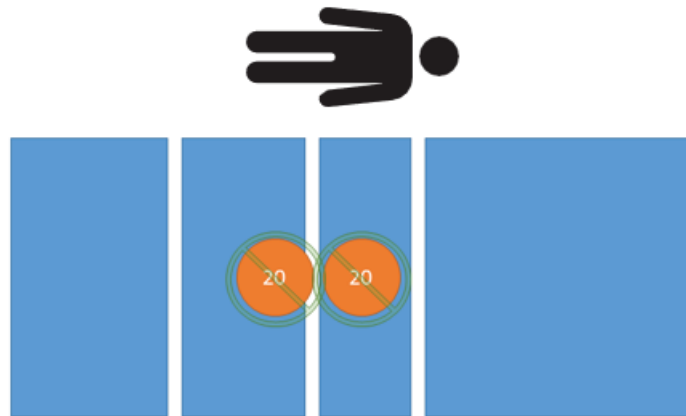

Figure 27 – Tare test - 0 kg net
1. Using calibrated weights, place 40 kg on the product (Figure 27).
12. Using calibrated weights, place 0 kg on the product (Figure 27).